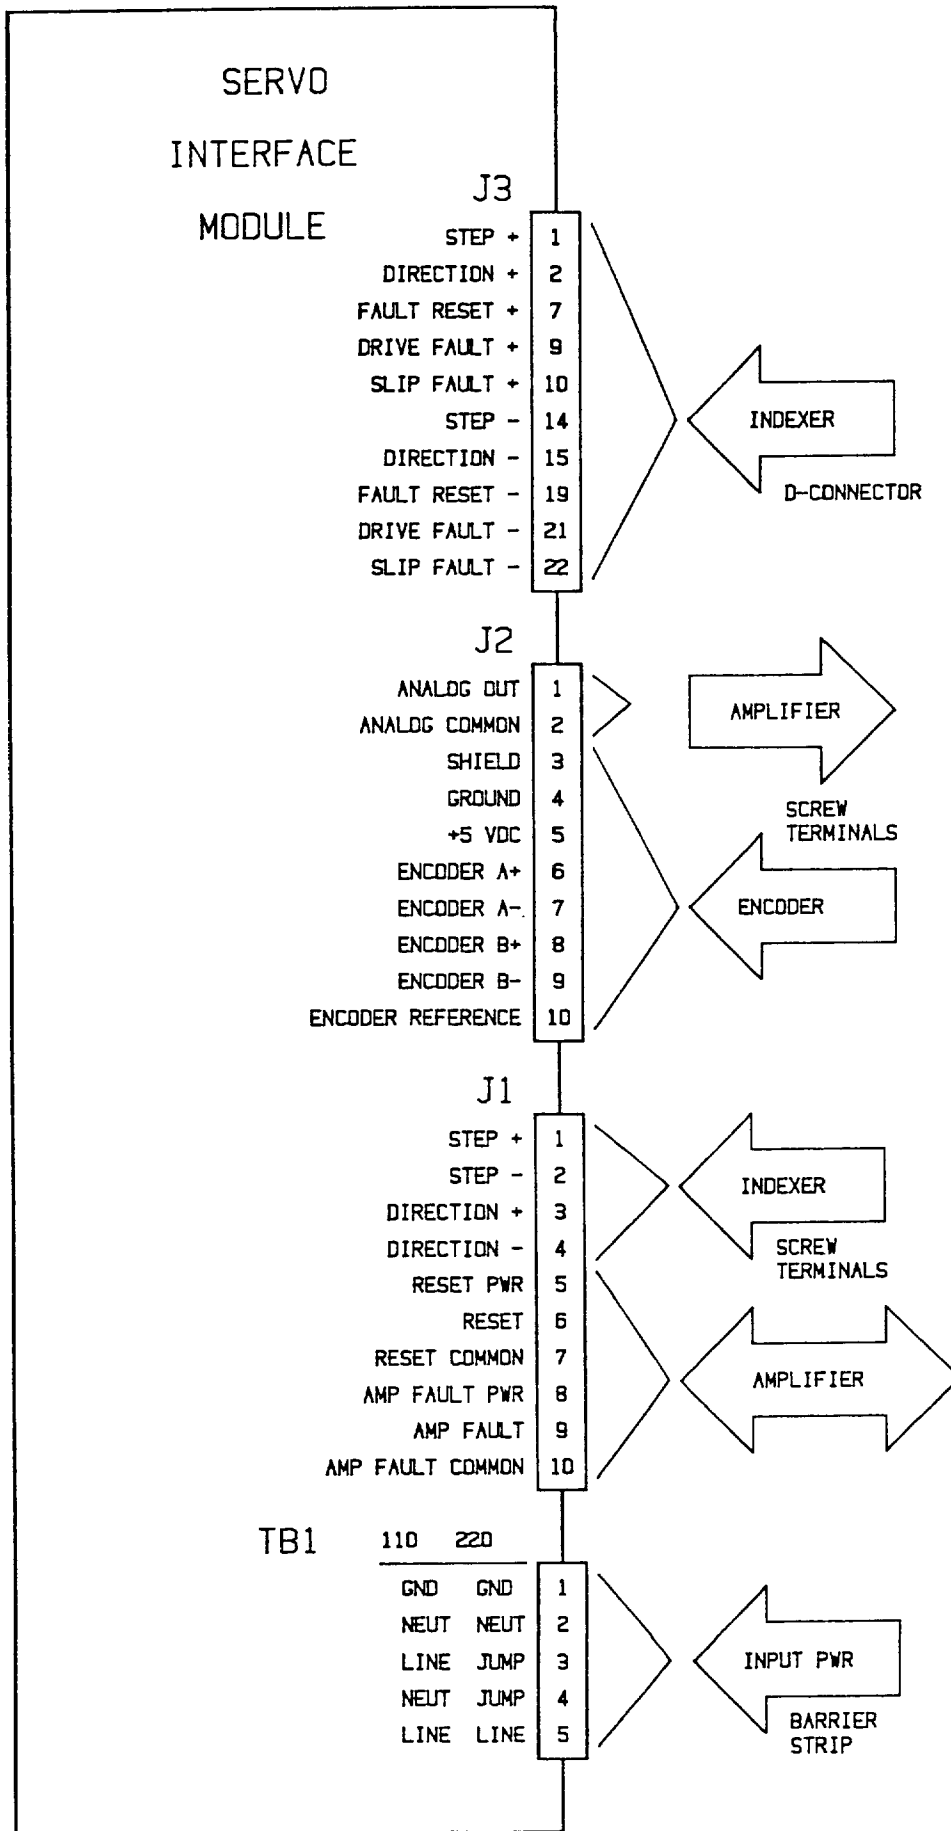

Figure 2-1. SIM Input and Output Connectors
The functions of all SIM input and output connectors are listed in Tables 2-1 through 2-4 and are shown in Figure 2-1, which is a typical SIM installation. The specifications for all inputs and outputs for the terminal setup are listed in Table 2-5.
- c. Install the SIM according to the interconnection diagram shown in Figure 2-1.
- e. Manually rotate drive shaft in the same direction noted in step b above. If the analog output voltage at J2, pin 1 (see Figure 2-1), is negative with respect to analog common (J2, pin2), the phasing is correct and you may skip to step f. If not, reverse differential inputs to the drive. Velocity servos without a differential input will require interchanging both encoder feedback channels A and B.